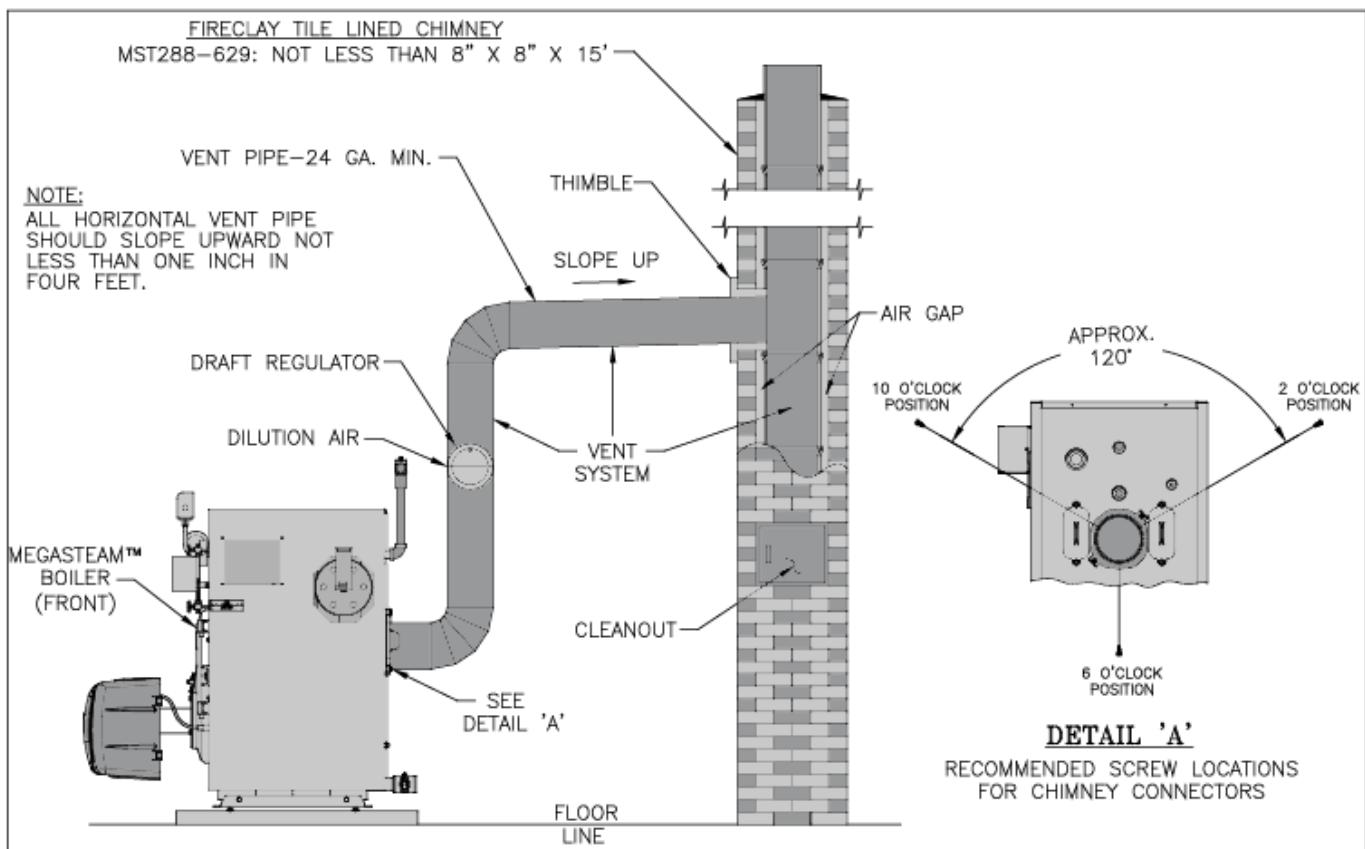

Figure 17: Recommended Vent Pipe Arrangement and Chimney Requirements
- 5. Draft Regulator – the draft regulator supplied with the boiler (or equivalent) must be used with this appliance. Refer to Figures 17 and 18.